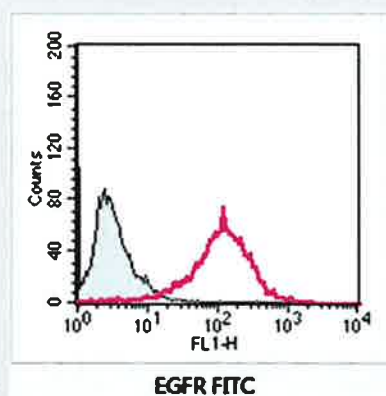

Fig. 1. Flow cytometry histograms showing the binding of representative EGFR aptamer in A431 cells.
- Aptamer is generated with recombinant human EGFR protein produced in mammalian cells and binds their cellular target with high affinity and specificity (Fig. 1).